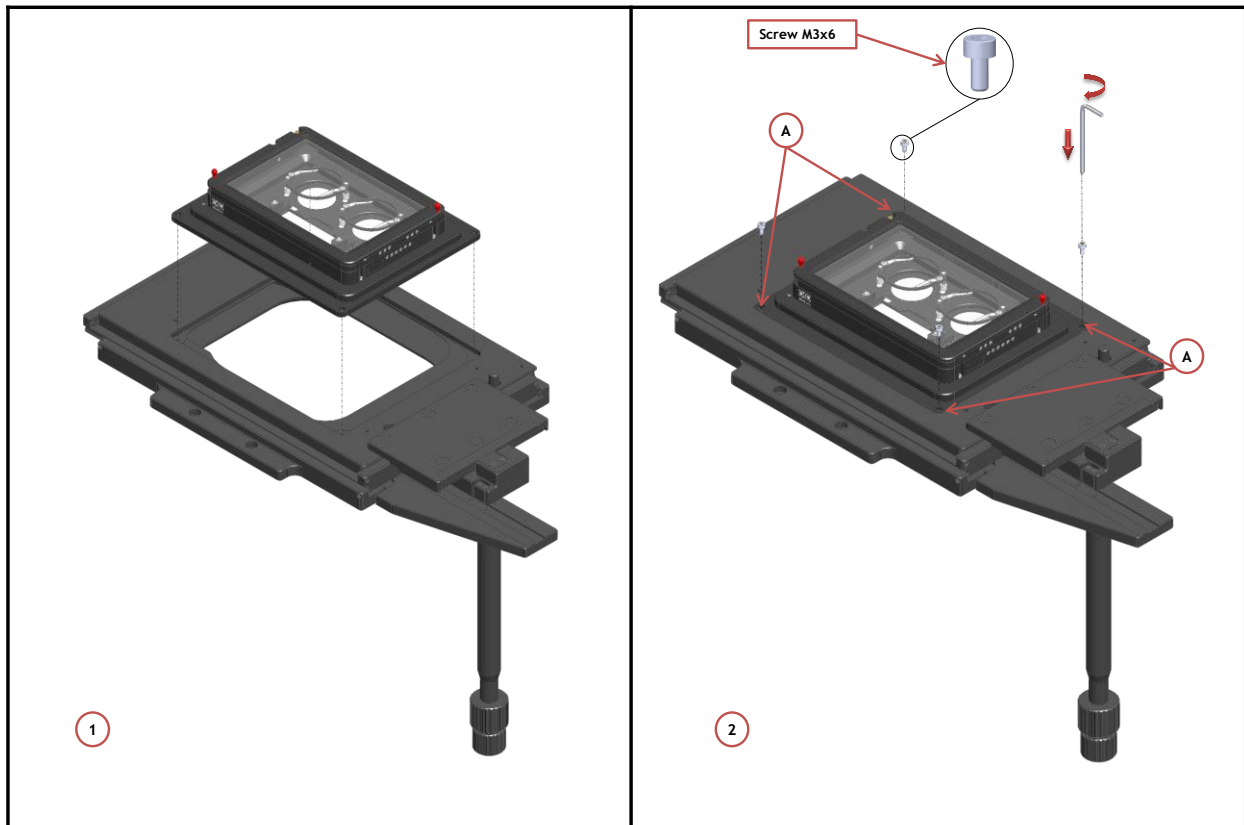

Figure 24. How to fix the H201-OLYMPUS-IX3-SVR to the XY stage.
Once you have assembled the chamber with adapter you can place it on the XY stage, following the steps shown in Figure 24.
6. Place the adapter on the stage (See Image 1 of Figure 24).
7. Follow the instructions shown in Image 2 of Figure 24 for placing socket head cap screws; use the provided Allen wrench for tightening the socket head cap screws and fastening the adapter on the stage. Screws housings are indicated with letter A in Image 2 of Figure 24.